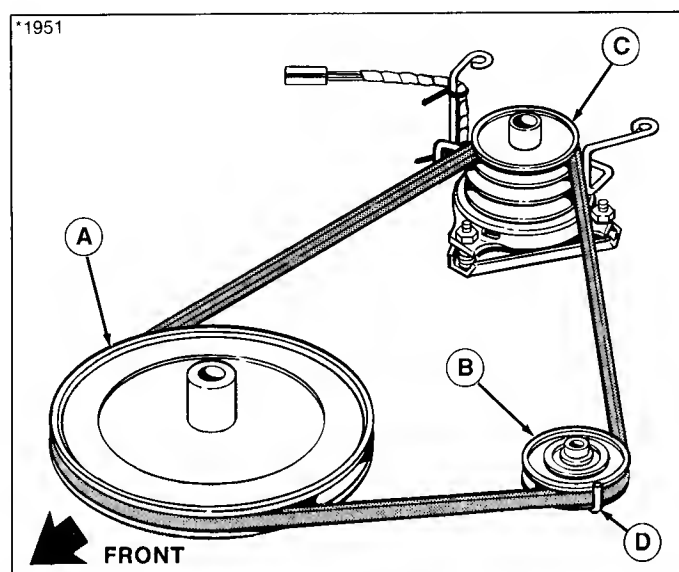

Figure 38. Belt Pattern - Gear Drive
3. Slip the belt off the pulleys (figure 38), loosening the belt guides as necessary.
4. Install the new belt as shown in figure 38, making sure there are no twists in the belt.